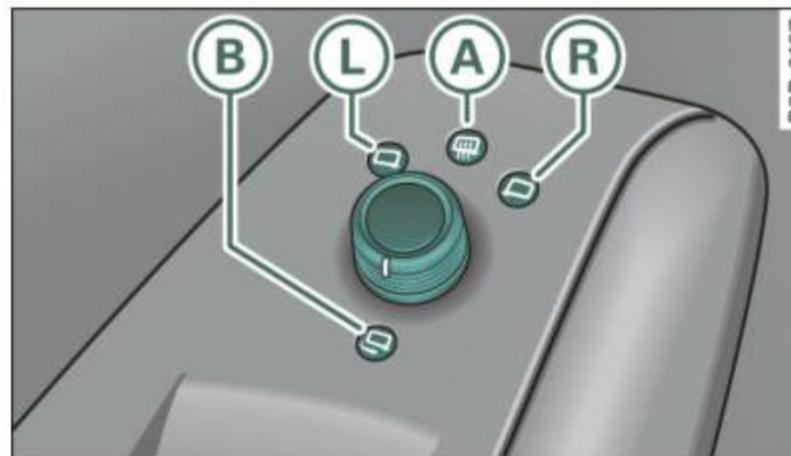

Fig. 66 Forward section of driver's armrest: power mirror controls
- Rotate the knob to the **(L)** position (driver's exterior mirror) or to the **(R)** position (passenger's exterior mirror) ⇒ fig. 66.
When the reverse gear is engaged, the mirror surface tilts downward slightly if the setting is for the passenger's mirror (knob in position **R** ⇒ fig. 66). This allows you to see the curb during parallel parking.